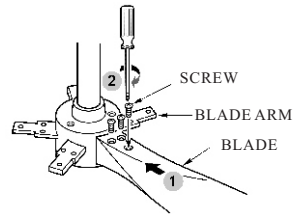

FIG.10
1. Attach each blade assembly to the blade arm using the blade screws. Tighten them securely (see fig.10)